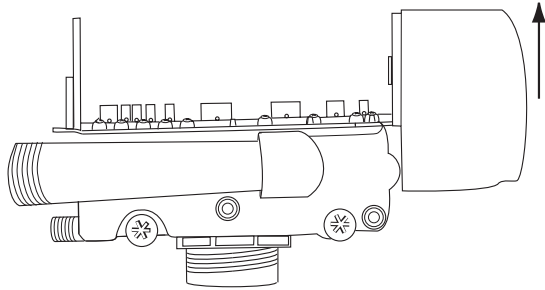

Figure 17
- Lift the control off the valves, Figure 17. To replace the control, reverse the above procedure. Note that the camshaft needs to be positioned correctly before it can be inserted into the back of the